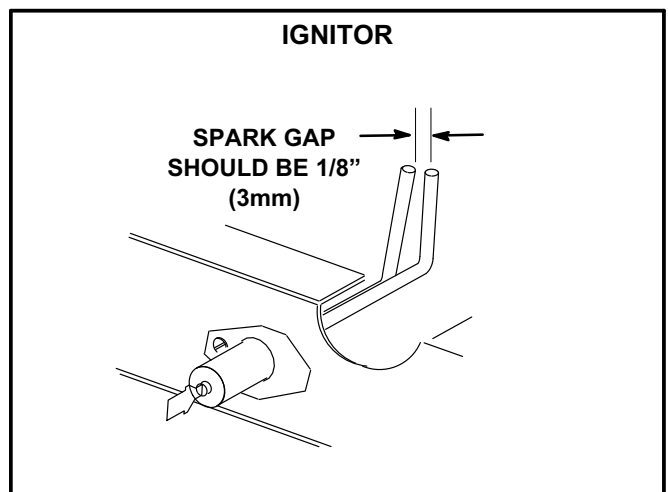

FIGURE 27
- 4- Locate the ignitor under the left burners. Check ignitor spark gap with appropriately sized twist drills or feeler gauges. See figure 27.